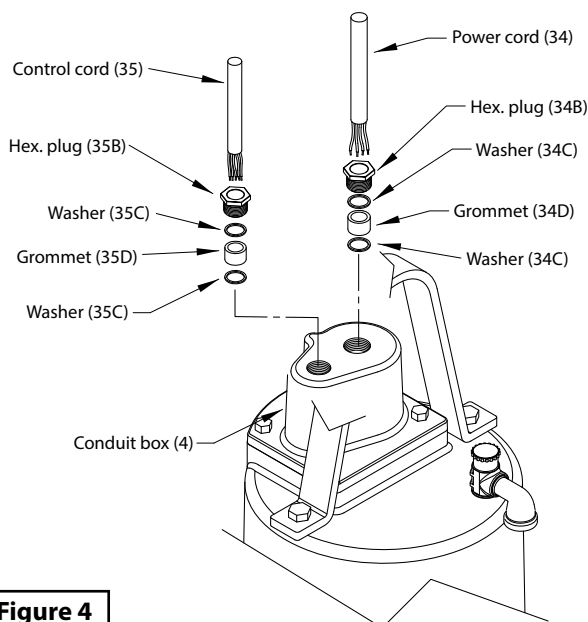

Figure 4
Conduit Box Assembly - Check power (34) and control cables (35) for cracks or damage and replace complete conduit box (4) if required. (See Figure 4) Bring motor wires through opening in top of motor housing (3), check sleeving and replace if damaged. Position square ring (5) in conduit box (4) and reconnect leads using connectors and insulators. See Figures 5, for wiring schematics.
Remove gland nuts (34B) and (35B), washers (34C) and (35C), and grommets (34D) and (35D) from conduit box (4), inspect and replace if damaged (See Figure 4). Reassemble by inserting one washer, grommet, one more washer and gland nut into conduit box. Torque gland nuts to 15 ft/lbs to prevent leakage.